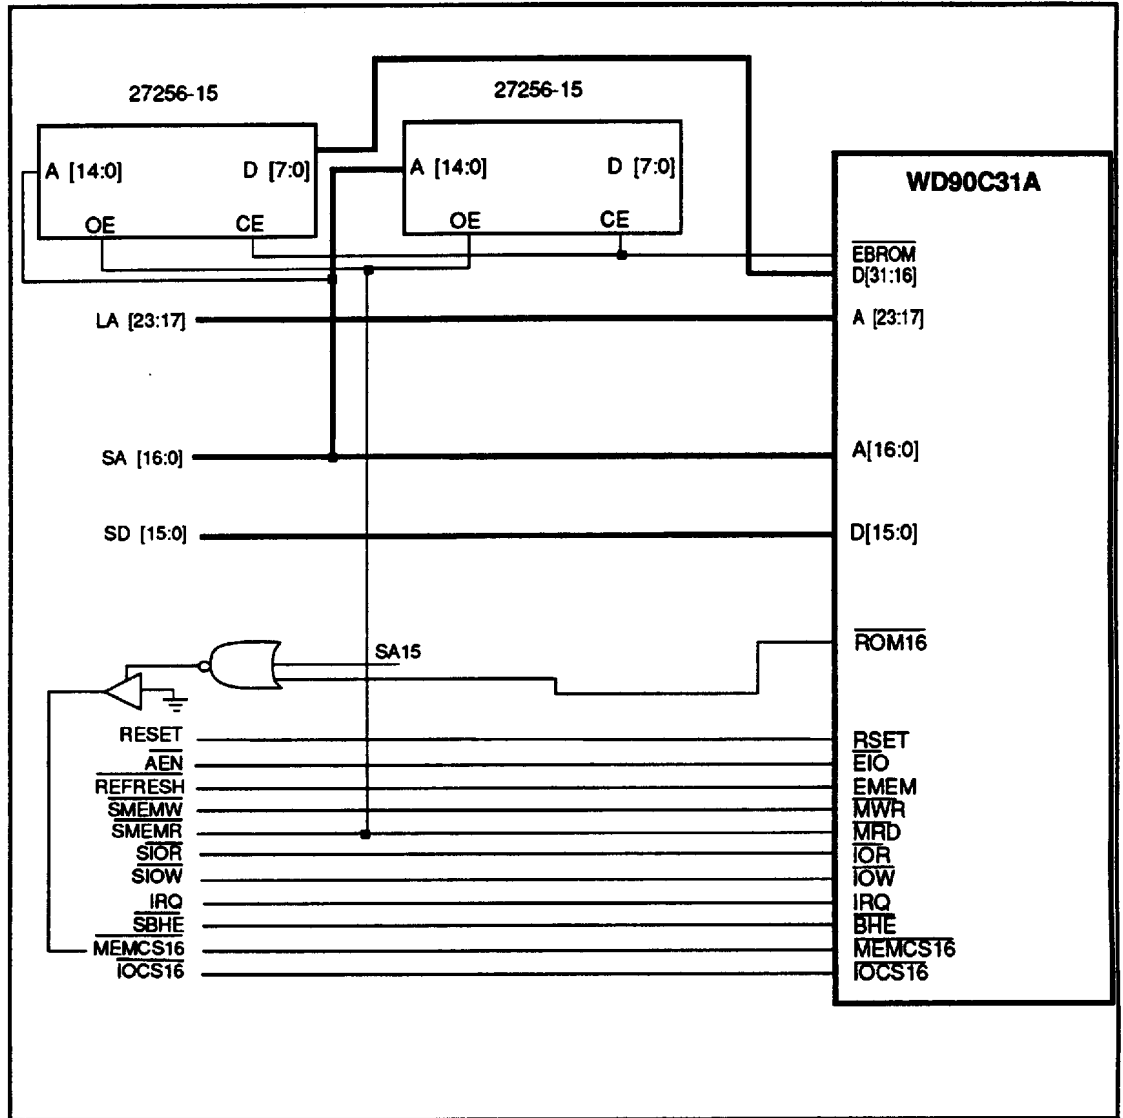

FIGURE 3-6 AT COMPATIBLE INTERFACE (16-BIT) AND 16-BIT BIOS
- Figure 3-6. AT Compatible Interface (16-bit) And 16-bit BIOS
Figure 3-6 shows the interface between a 16-bit AT compatible bus, a 16-bit BIOS, and the WD90C33 Controller. This MEMCS16 implementation is limited to slower bus speeds because address lines A16 and A15 are used for the 16-bit BIOS. The typical use for this configuration is with 386/486 based systems.